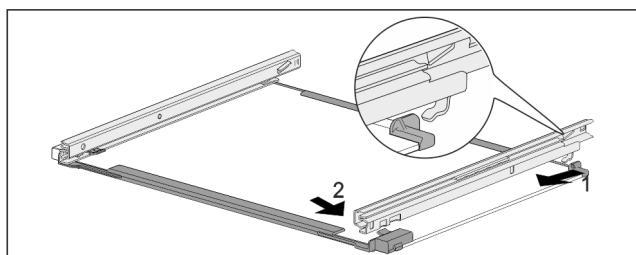

Fig. 152 Glass shelf with rails
- ▶ Hook in rail at the back. Fig. 152 (1)
- ▶ Hook in rail at the front. Fig. 152 (2)